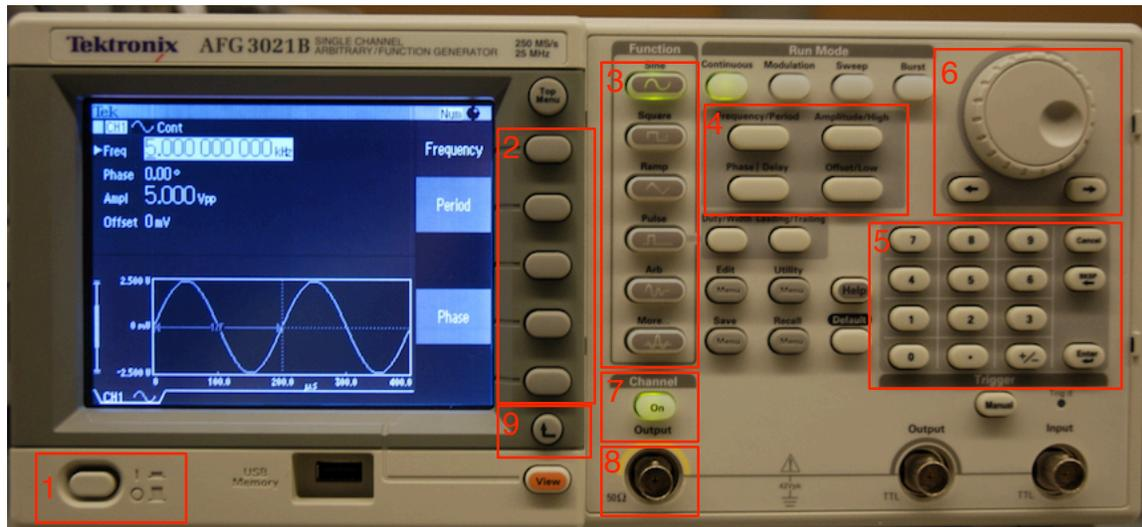

Figure 1. Front panel of 3012 function generator.
2. To change the parameters of the waveform, use the parameters buttons (section 4 in Fig. 1) to select the parameter that you intend to alter. Frequency and amplitude are the two things you will change most frequently. The display next to the soft-keys will change to reflect the parameter choice. Use the soft-key to choose which parameter you would like to specify. For example, if you pushed the Frequency/Period parameter button, you can then choose either Frequency or Period using the soft-keys.
3. Parameter values can be changed by two methods. The first is to simply punch in the value using the numeric keypad. Use the number keys to change the period to $250 \mu\text{s}$. First, choose “period” using the soft-key, then enter 250 with keypad, and then select the units — μs — using the soft-keys. The change takes effect when the units key is pushed. Note that changing the *period* to $250 \mu\text{s}$ is the same thing as changing the *frequency* to 4 kHz. The parameter values and waveform shown on the graph will change accordingly. The second method for changing parameters is to use the rotary dial (item 6 in Fig. 1). The arrow keys beneath the dial can be used to select to select the particular digit that the dial will adjust.
4. To change the waveform type, use the waveform buttons, located in a vertical column to the right of the display (item 3 in Fig. 1). In addition to three basic periodic waveforms, there are others geared towards specific applications in electronics and communication systems. Change the waveform type to a square wave. Note the parameters for the square wave. Finally change the waveform to ramp and note the different parameters that can be set for that.
5. The output button (item 7 in Fig. 1) turns on the voltage waveform to the output terminal. Until this button is pressed, the output voltage will be zero. To connect the output to your circuit, you will need to use a BNC-to-banana plug adaptor. You can use a short length of coaxial cable with BNC connectors at both ends between the function generator and the adaptor, or you can connect the adaptor directly to the generator output port. Be careful to